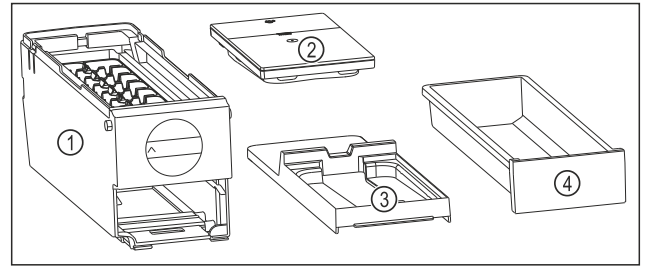

Fig. 138 Components of the EasyTwist-Ice
- ▷ EasyTwist-Ice is dismantled into four parts. (see Fig. 138)
- ▶ Only dismantle the EasyTwist-Ice into the components shown. (see Fig. 138)
- ▶ Clean the EasyTwist-Ice body Fig. 138 (1) as a whole.